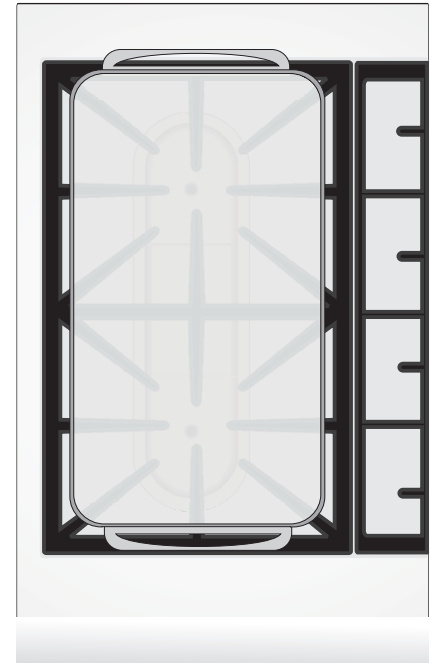

Figure 1
- Center either side of the griddle over the Bridge Burner (See Figure 1).